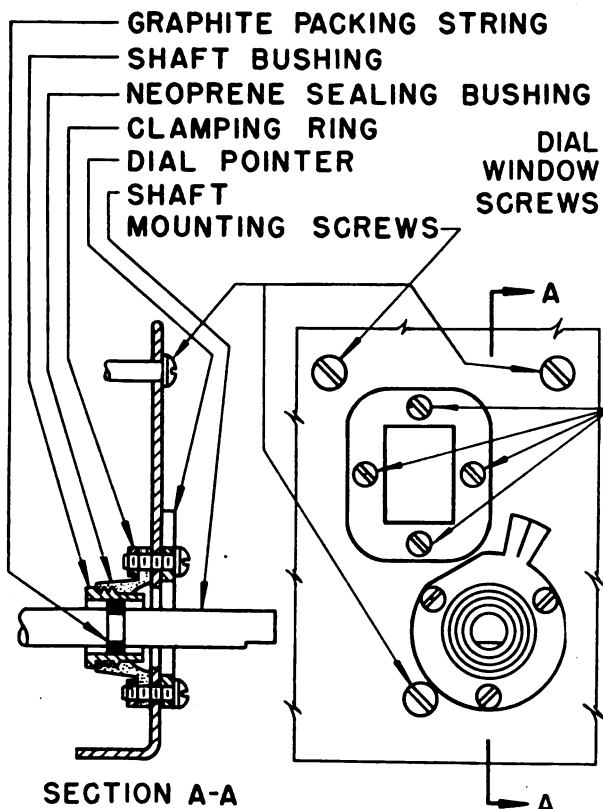

Figure 52. Detail of ganged tuning capacitor mounting in transmitter of Radio Receiver and Transmitter BC-1306.
(6) The ganged tuning capacitor, which is a plug-in type, may now be removed from the rear, making all parts accessible. No unsoldering is required.
(7) Examine the banana plugs and jacks for corrosion, and clean if necessary with an eraser. Check also for bent plates, shorted trimmers, and unsoldered connections in the assembly.
(8) For detail of transmitter ganged tuning capacitor mounting, see figure 52.